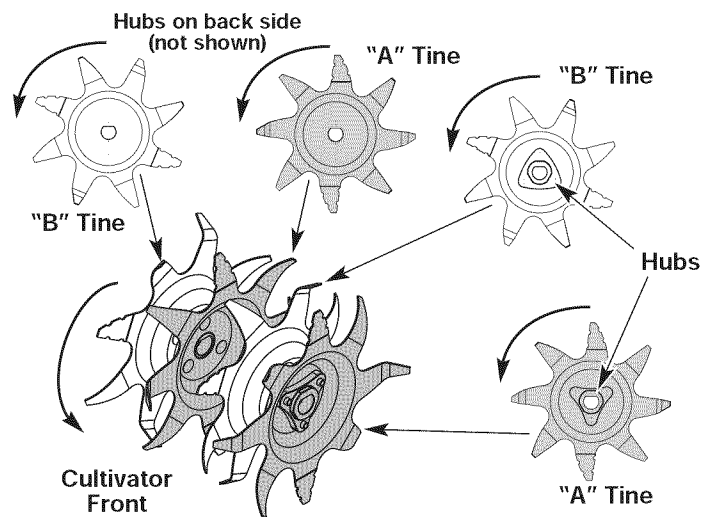

Fig. 12b
- When you are reinstalling tines, lay out the tines and compare them to those shown in Figure 12b. Note specifics about each tine: its hub, curvature and lettering ("A" or "B"). This will help make sure that you are placing the correct tines in the correct order.
**NOTE:** If you look closely, you can see a slight curvature in the tine tips. These curves should point toward the front of the cultivator when the tines are installed. Figure 12b shows the curve in each tine.